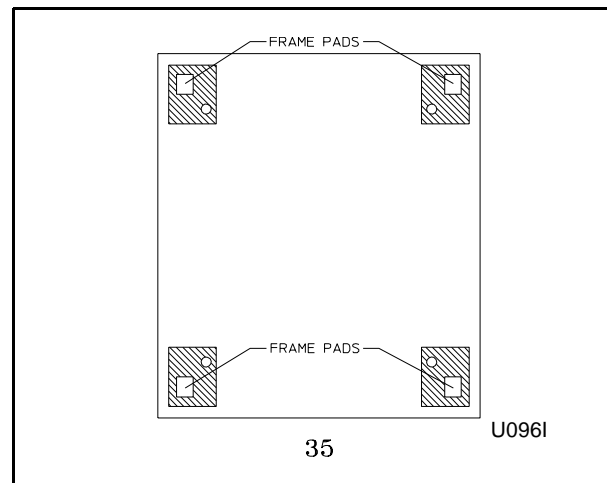
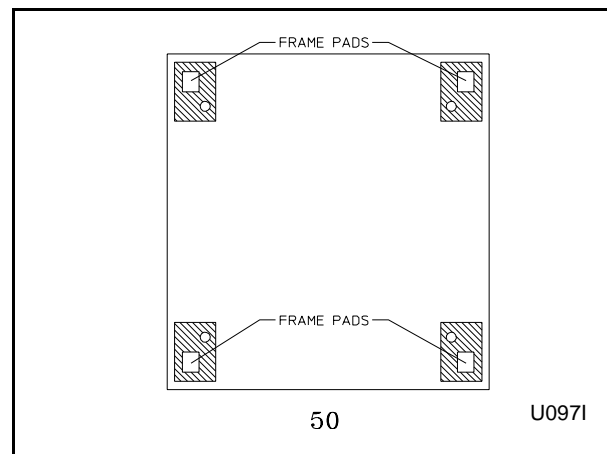
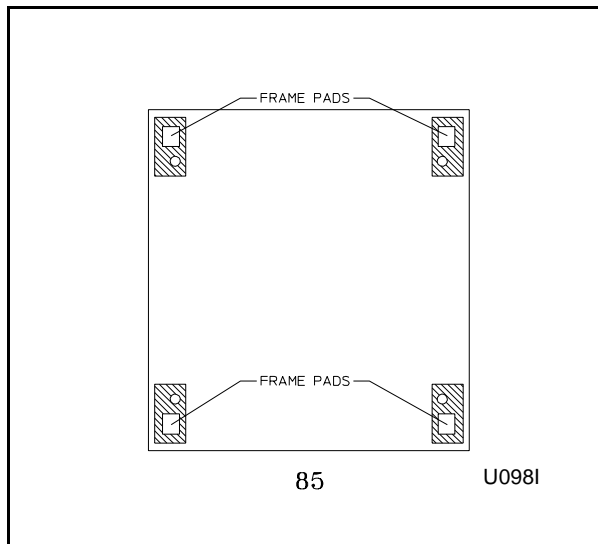

Figure 9
Figure 10
Figure 11
5. Fill the spaces between the washer-extractor base and floor with a good quality non-shrinking machinery grout to ensure a stable installation. See Figure 9 for grouting the 35-pound capacity model. See Figure 10 for grouting the 50-pound capacity model. See Figure 11 for grouting the 85-pound capacity model.